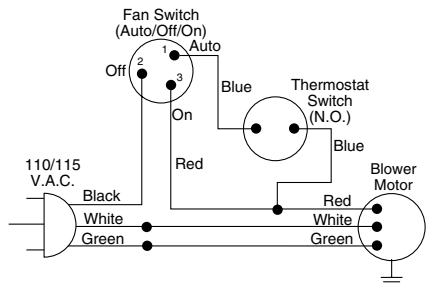

Figure 16 - Wiring Diagram For Blower Accessory Standard Installation
5. Carefully disconnect green and white wires at their insulated connectors (see Figure 16, page 15).